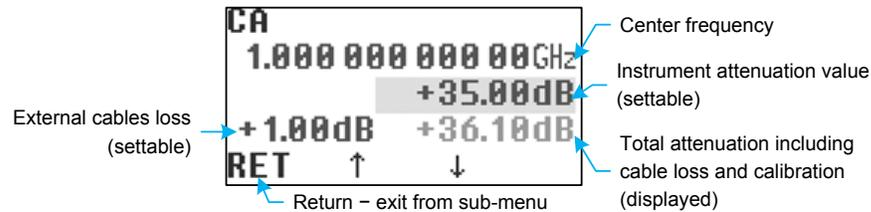

Figure 9: Continuous attenuation operation mode menu (Operation Modes > Continuous Att.)
6.2.1 Continuous Attenuation Operation Mode (CA)
Continuous Attenuation operation mode (CA) has the following parameters (fig. 9):
Let's consider an example of how it works. User sets the desired attenuation of the instrument 35 dB and sets external cable loss to 1 dB as shown in figure 9. The instrument tries to find the combination of internal attenuators which results in nearest to desired value (35.1 dB in this example). 0.1 dB difference is caused by error of minimum attenuator which is not actually equal to 0.5 dB at all frequencies. Thus actual total attenuation equals to 36.1 dB as displayed in the field at lower left corner of the screen.